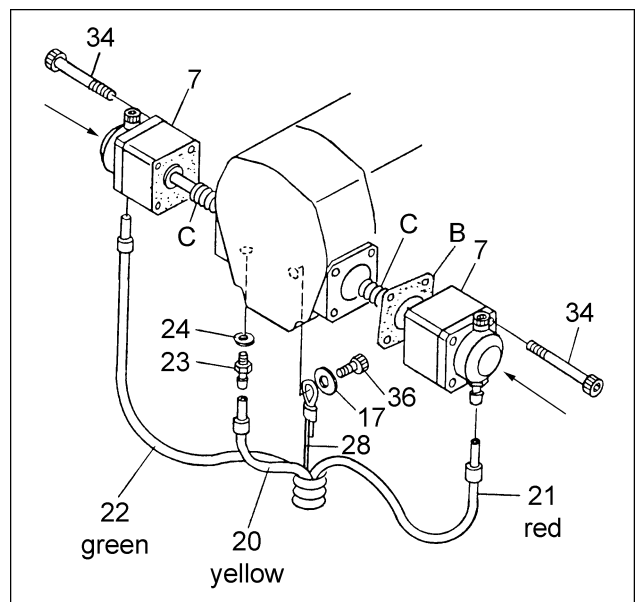

Fig. 4
3. Place spring (C, Fig. 4) onto pendant cylinder plunger. Place cylinder (7, Fig. 4) and packing (B, Fig. 4) on valve casing and attach with four screws (34, Fig. 4).
4. Attach support wire (28, Fig. 4) with screw (36, Fig. 4) and washer (17, Fig. 4) to the bottom of valve casing.
5. Place packing (24, Fig. 4) onto tube nipple (23, Fig. 4) and screw into bottom of valve casing.